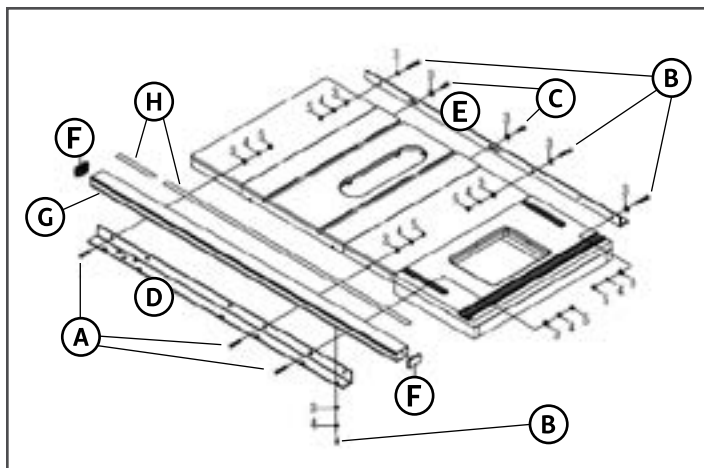
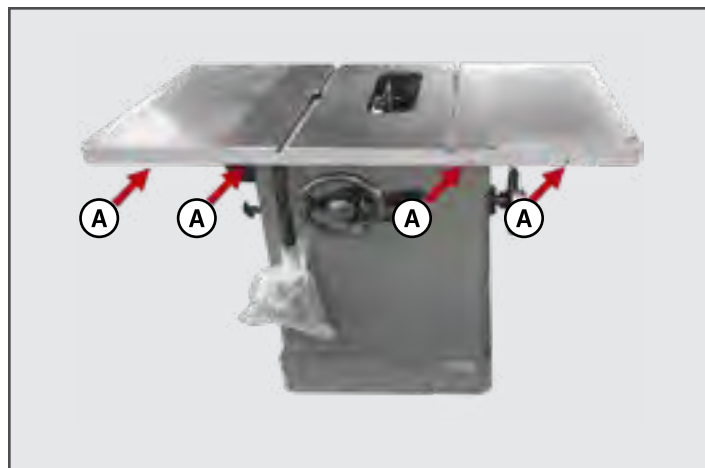

FIGURE 8: RIP FENCE RAIL SCHEMATIC
FIGURE 9: RAIL INSTALLATION LOCATIONS
1. Install two 1/4" x 1-1/2" flat head screws (A) into the predrilled holes on the router table extension. See Figure 8.
1. Install three 1/4" x 1-1/2" hex cap screws (B) with washers into the predrilled holes on the rear of the saw. See Figure 9.
2. Install three 1/4" x 3/4" hex cap screws (C) with flat washers into the pre-drilled holes.
3. On the inside of the table, install one 1/4" flat washer (3), lock washer (4) and hex nut (5) on each flat head screw.
4. Bolt the fence guide (G) onto the rail using 1/4" x 3/4" hex cap screws with flat washers and lock washers. Install through the rail from below See Figure 8.
5. Affix the scales (H) to front rail.